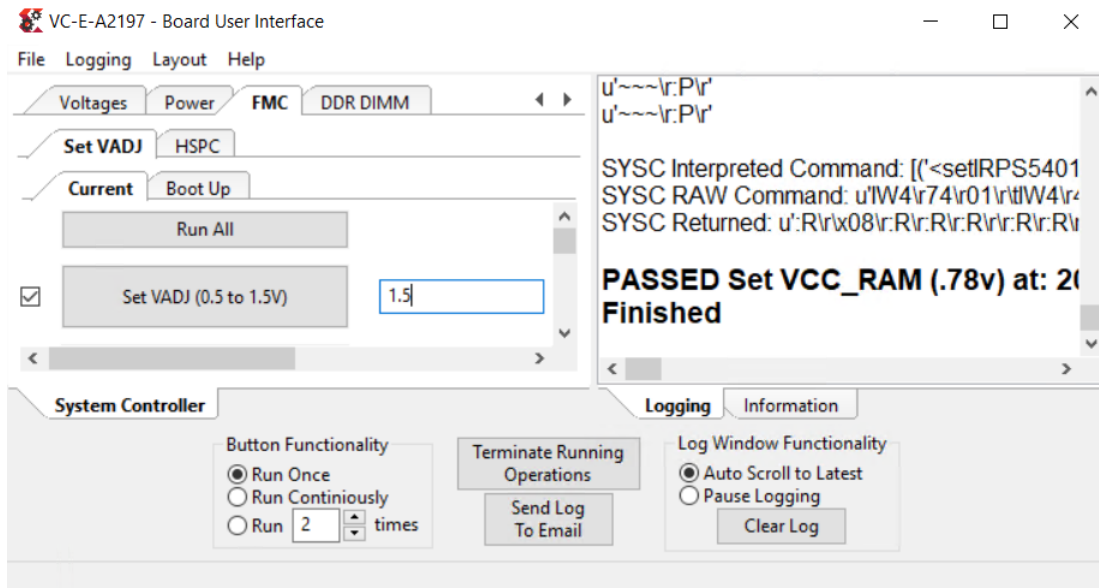

Figure 5-53: Setting the VADJ Value
8. Select the checkbox for **Set Vadj (0.5 to 1.5V)**, and then enter a voltage value in the 0.5-1.5V range, as shown in Figure 5-53.